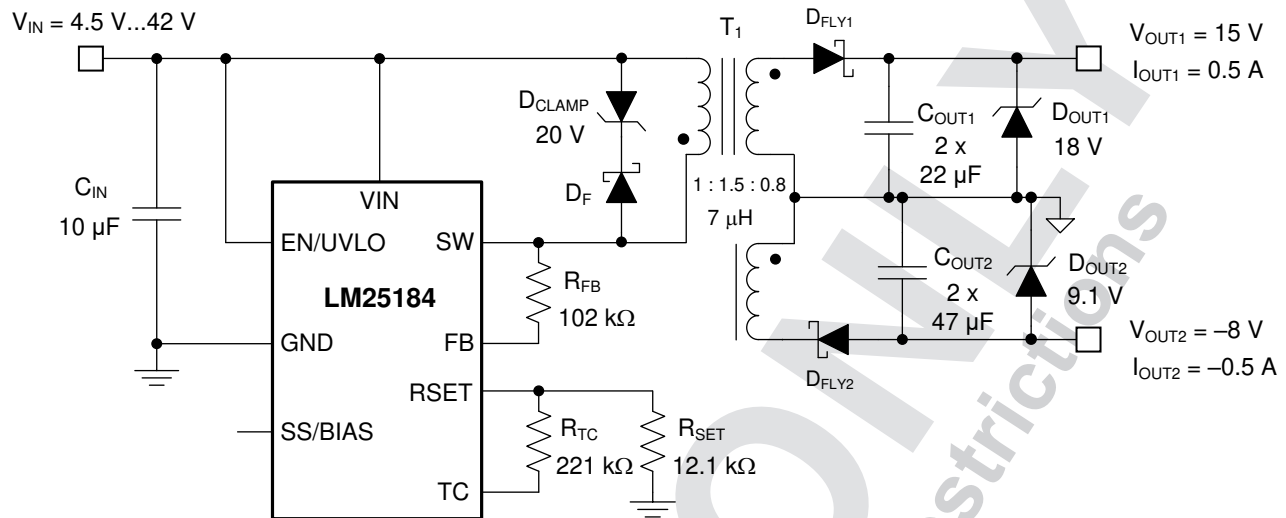

Figure 1. LM25184-Q1 PSR Flyback Dual-Output Schematic
Figure 1 shows the schematic of an LM25184-based flyback converter (EMI filter stage not shown). Soft start (SS), temperature compensation (TC), and UVLO (EN/UVLO) components are shown that are configurable as required by the specific application. The transformer turns ratio is 1 : 1.5 : 0.8 and the primary-referred magnetizing inductance is 7 μ H.